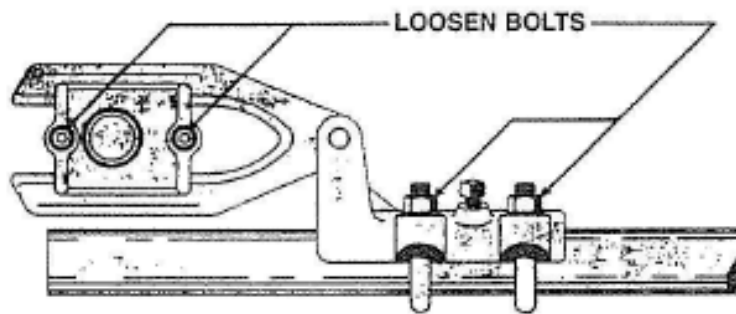

Figure 9: Top View of Adjustable Arm Assembly
- Loosen Adjustable Arm and Clevis Bolts - **Figure 9**.